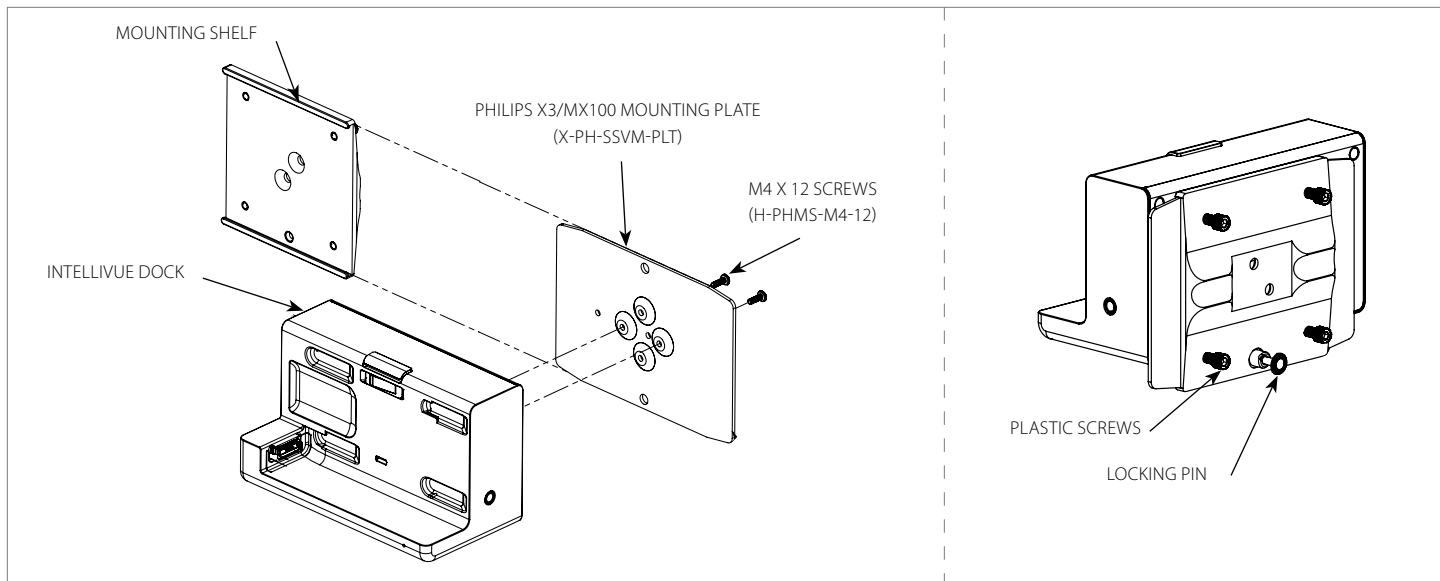

Figure 1
1. First install the **PHILIPS X3/MX100 MOUNTING PLATE** to the **INTELLIVUE DOCK** with **4x M4 SCREWS** (Figure 1).